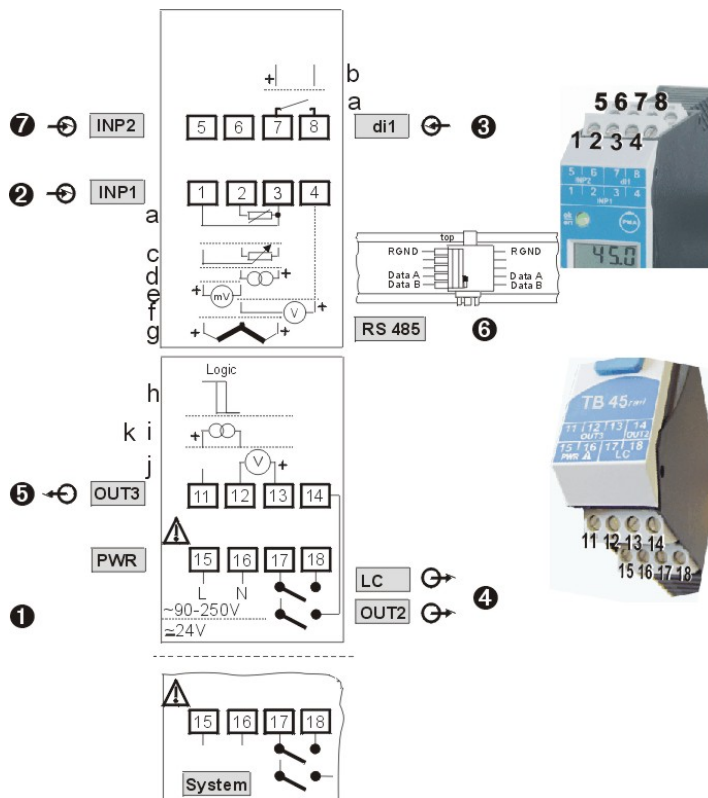

Fig 2: Connection diagram TB 45 EN14597 (2009-1)
The version table was enhanced with one unit type TB45-2 **temperature limiter TB** according to EN14597 (Tab. 3). To securely recognize any component failure, the following must be observed carefully by the user (connection diagram see Fig.2):
- Connect resistance thermometer according to Fig.2!